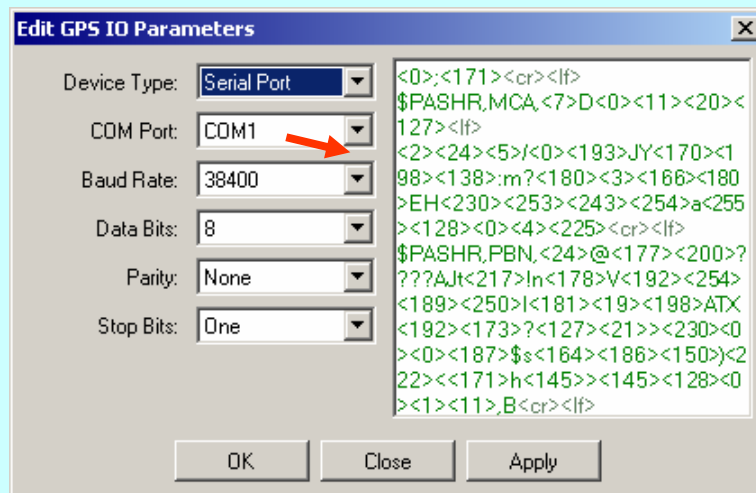

Figure 12 Notification window
- d) Now select the drop down arrow against the Baud rate and select 9600 (Figure 12).